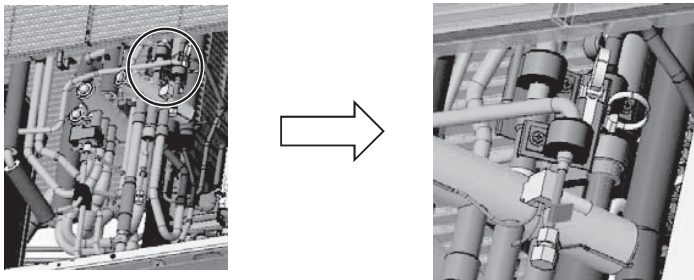

Figure 2
(1) Remove the wiring and sheet metal. (Screwed down with four screws) (See Figure 2.)